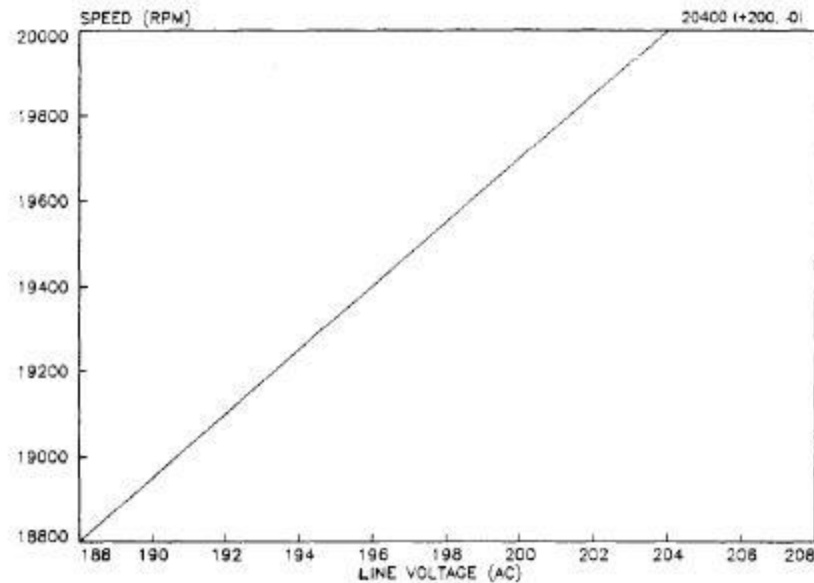

Figure 7-1. RC-5C PLUS Speed vs Line Voltage
13. Adjust R26 on the Microcomputer PC. Board clockwise / counterclockwise (clockwise decreases speed; counterclockwise increases speed) to attain 20,400 rpm (+200~ -0) at 208 Vac. Refer to figure 7-1 for the correct speed and line voltage specifications.